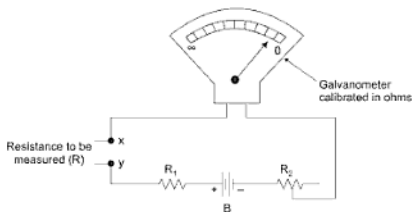

Fig. 4.19
- (vi) A torque is produced owing to the presence of this current in the field of the driving magnet and the disc rotates as shown in Fig. 4.19.
It is a direct reading instrument and straightaway gives the resistance of a circuit. In its simplest form an ohmmeter is nothing but a calibrated galvanometer having its scale marked in ohms as shown in Fig. 4.19.